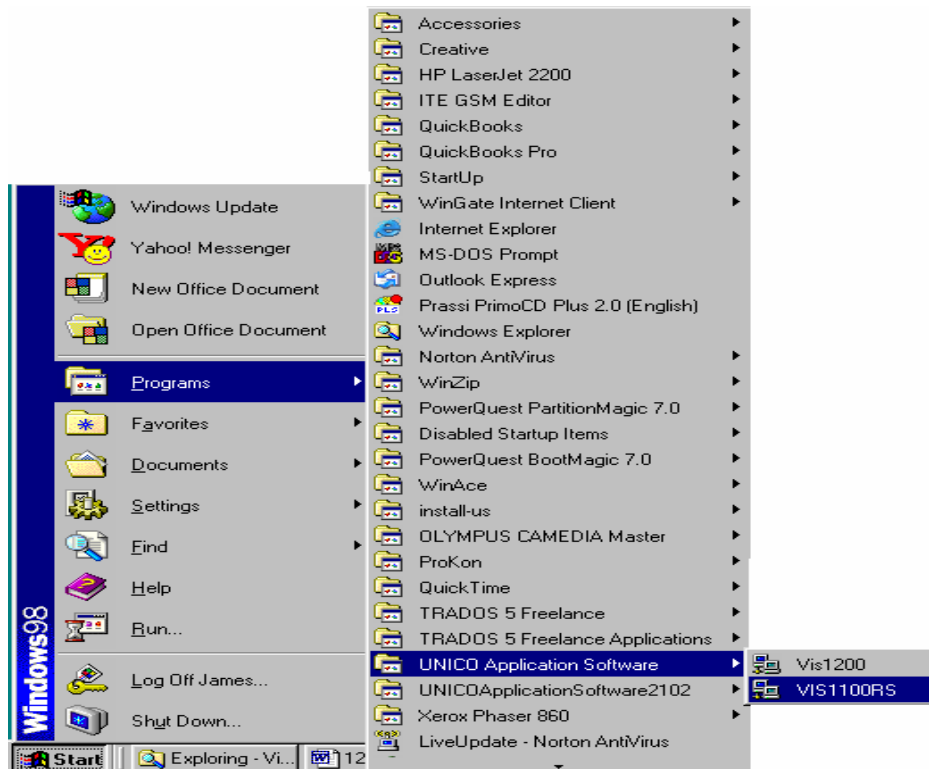

Figure-10 Open the Software
Step 5: Click the **Start** button on your PC, scroll to **Programs, UNICO® Application Software** and locate the **VIS1100RS** (Figure-10), and click it.